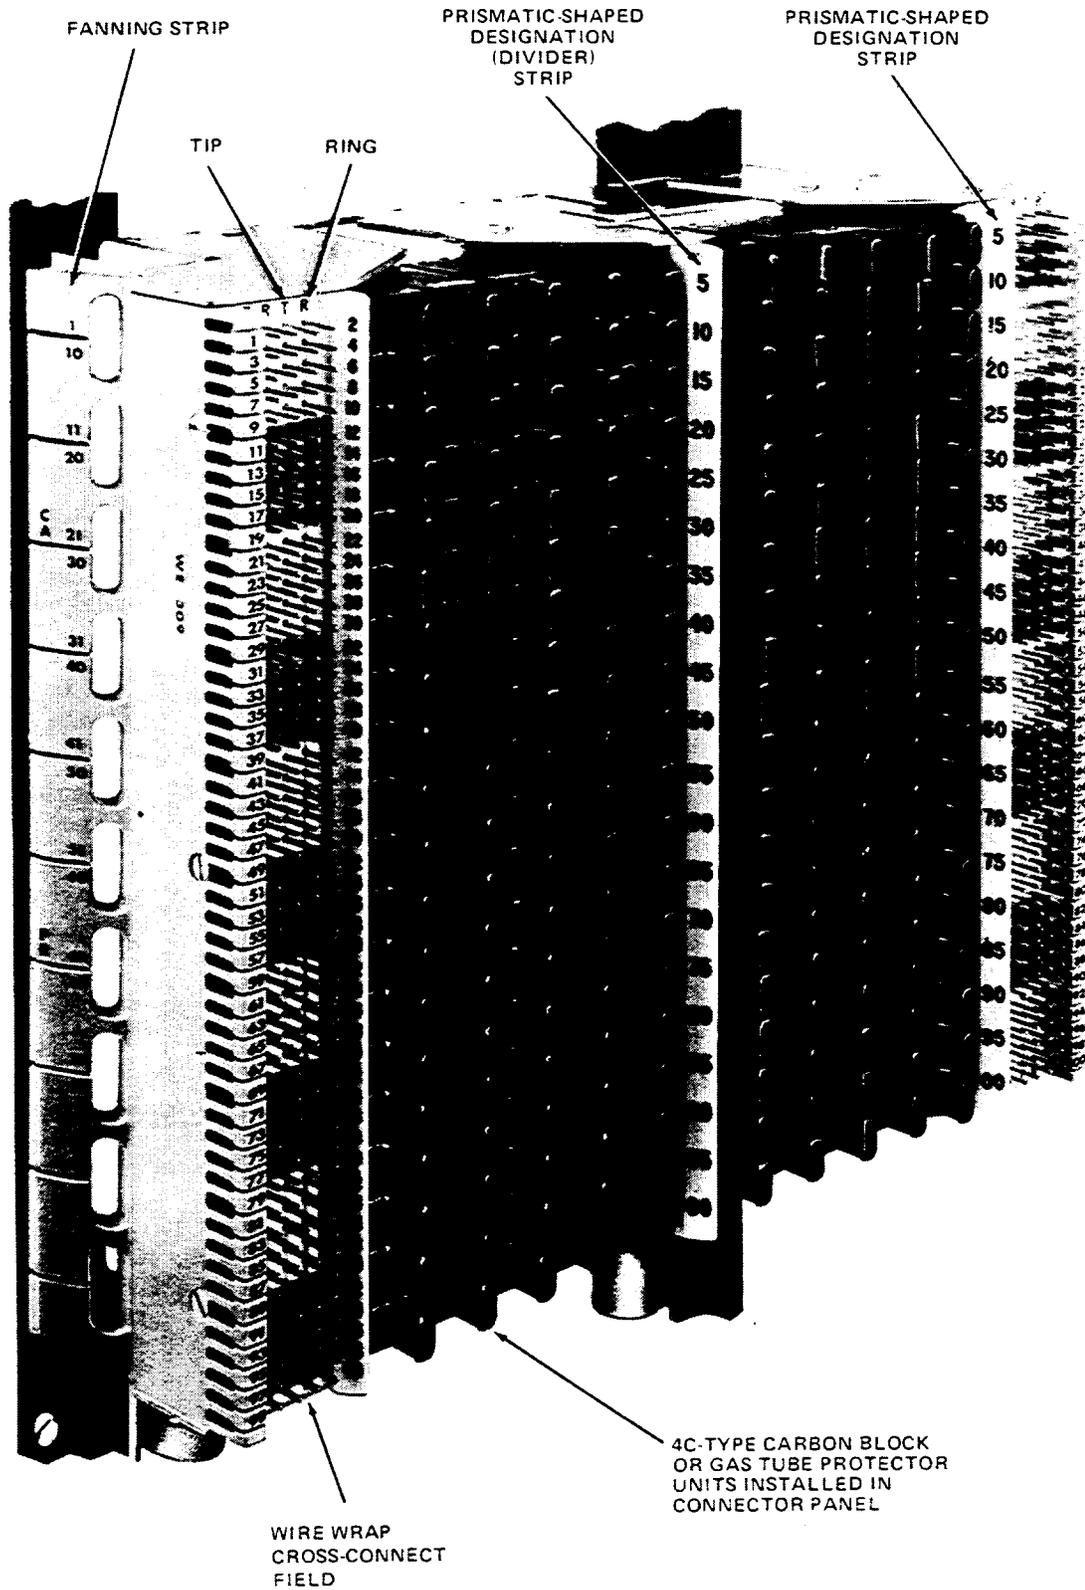

Figure 1—309-Type Connector — Left Side/Front View
2.01 The 200-pair, 309-type connector (Figure 1, 2, and Table A) measures 11-1/8 inches wide, 11 inches high, and extends 3-7/8 inches outward from the frame vertical. This front facing connector consists of two separate 100-pair units, each mounted on adjacent frame verticals abutted in mirror image. Each 100-pair front panel contains gold-plated terminals for a 5 by 20 array of 4C protector units. Nine 200-pair connectors can be mounted on one bivertical bay of an 8-foot 10-inch high ED-97754-74 LPCDF. This is equivalent to 900 pairs per vertical on a conventional arrangement.
2.02 Each 100-pair connector unit has a separate protector unit panel and a related cross-connect panel. The molded cross-connect panel incorporates an angled designation strip (Figure 1 and 2) that identifies the beginning or end of each row of protector units on one side and identifies the T and R cross-connect terminals on the other side. The cross-connect field is arranged in a blue and white checkerboard pattern of 10-pair groups. A separate blue plastic fanning strip is attached to the side of the cross-connect panel and contains additional identification of the T and R cross-connect terminals.